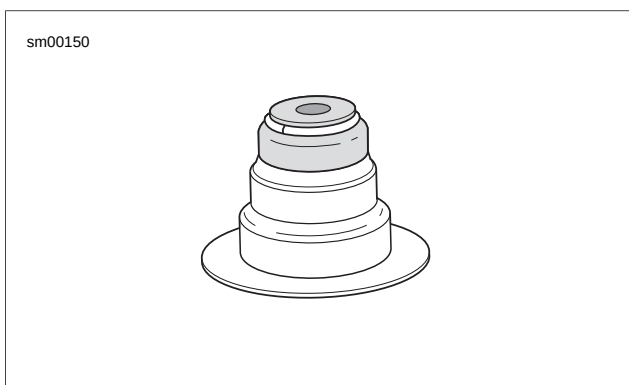

Figure 3-62. Valve Seal and Lower Collar Assembly (Seal and Lower Collar Replaced as Assembly Only)
- See Figure 3-62. The valve seal is incorporated into the lower collar and is installed by hand. NO SPECIAL TOOLS ARE REQUIRED.
- c. See Figure 3-62. Using a grease pencil, mark a straight line on the cylinder head bolt continuing the line over onto the cylinder head.